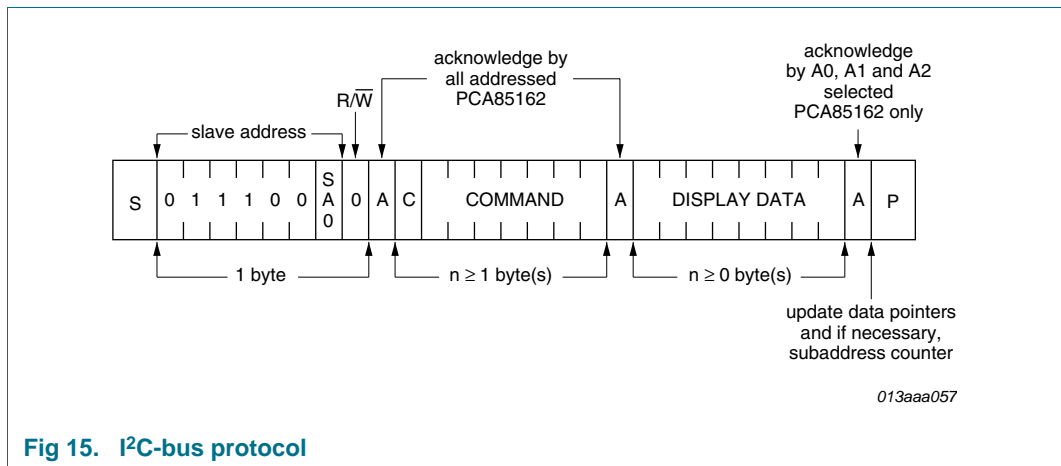

Fig 15. I²C-bus protocol
The I²C-bus protocol is shown in Figure 15. The sequence is initiated with a START condition (S) from the I²C-bus master which is followed by one of two possible PCA85162 slave addresses available. All PCA85162 whose SA0 inputs correspond to bit 0 of the slave address respond by asserting an acknowledge in parallel. This I²C-bus transfer is ignored by all PCA85162 whose SA0 inputs are set to the alternative level.